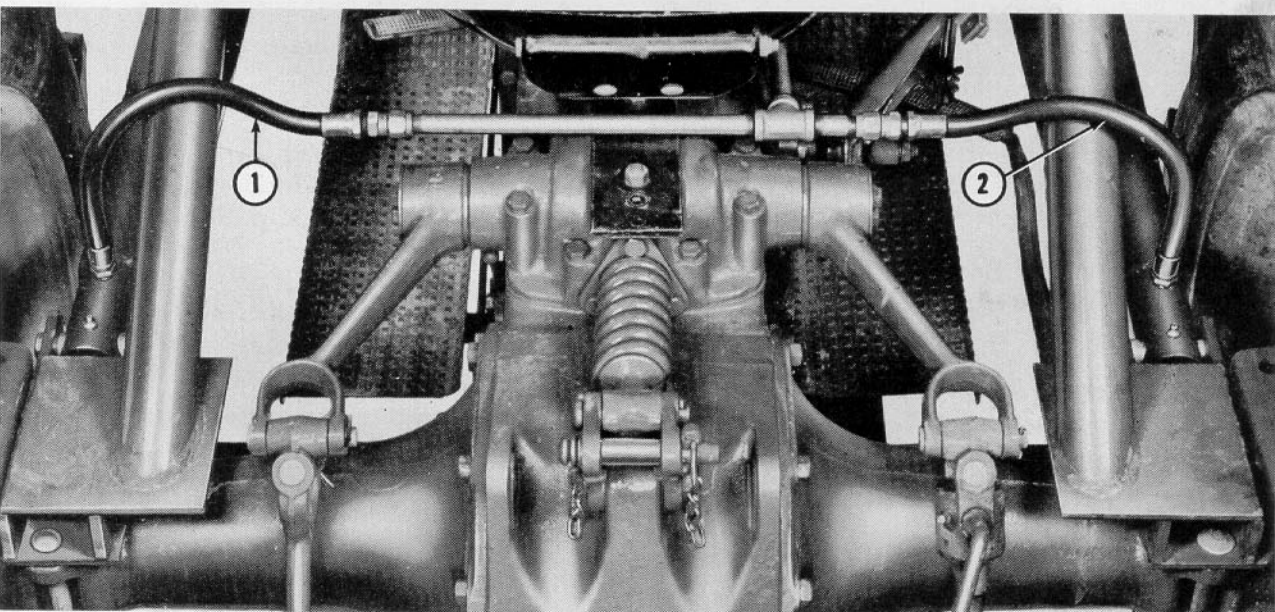

Figure 9
11. Attach the two hydraulic hoses (1) and (2), Figure 9, to the two cylinders and the hydraulic line as shown. Coat the threads with plumber's compound.